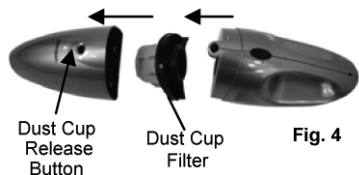

Fig. 4
2. Ensure that the dust cup filter is inside, then re-attach the dust cup container to the hand vacuum. (Fig.4)